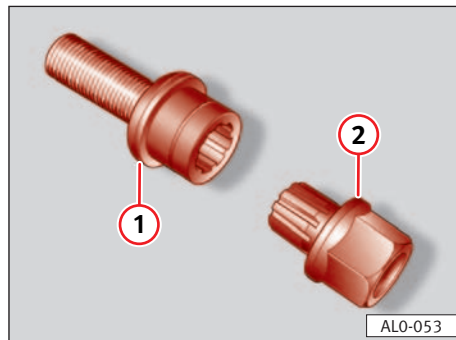

Fig. 179
- First press the adapter ② as far as possible into the star shaped depression on the anti-theft wheel bolt ① ⇒ fig. 179.
- Push the wheel spanner (from the vehicle tools) as far as possible onto the adapter ② and loosen/tighten the wheel bolt as necessary ⇒ "Replacing a wheel" chapter.
- Should you lose the adapter ⇒ fig. 179 ②, SEAT Service can supply you with a new one with reference to the code card (also in vehicle tools).